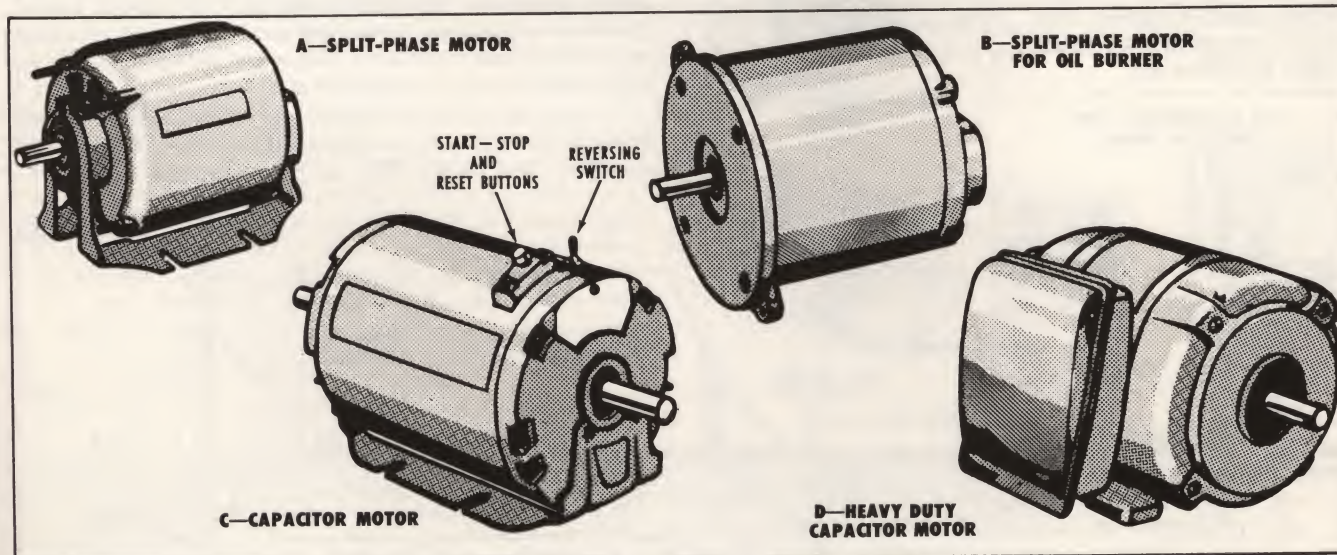

FIG. 103—ELECTRIC MOTORS FOR CITY AND FARM USE
**REPLACEMENT MOTORS AVAILABLE.** Wards maintains large stocks of replacement motors for a wide variety of purposes. (See Fig. 103.) Split-phase motors operate furnace blowers and attic or window fans, oil burners and a variety of power tools. Other capacitor motors and heavy-duty capacitor motors are for pumps, compressors and appliances, etc. Installation of replacement motors is simple... just remove old motor and install a new Wards model with just a few tools. Select motor from catalog or at nearest Wards retail store.